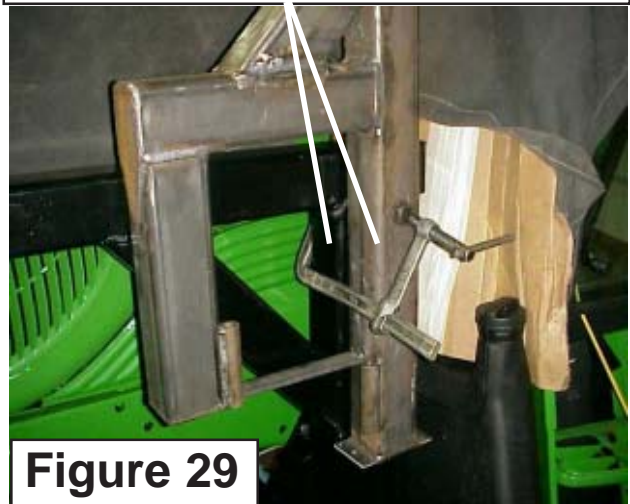

Figure 29
4. Lower High frame down over Tractor. This is a two man job in order to keep control of High Frame on both sides of tractor (**See Figure 25**). Lower the High Frame down over the Frame rails (**See Figure 26**) slowly, as it must straddle the Frame Rails (**See Figure 26**). Lower High Frame until the top of the High Frame is no higher than the cab of The Tractor max. and no lower than 24-1/2" from frame to hood as the min. distance (**See Figure 25**). Another mark to look at is the Horizontal tube of the High frame should be parallel up and down with the Frame Rail Tube as shown on next page (**See Figure 29**).
6. Secure High Frame to Frame Rails. Secure the High Frame to the Frame rails with C-Clamps on both sides (**See Figure 29**). Do not weld anything at this time.
The height of the High frame should be no higher than the Cab of the Tractor. The horizontal tube of the High Frame should be just above the height of the horizontal Tube of the Frame Rail (**See Figure 29 & 30**)
Clamp the High frame to the Frame Rail when aligned and leveled. (**See Figure 29**). Leave the Hoist connected to the High frame for safety and additional support.